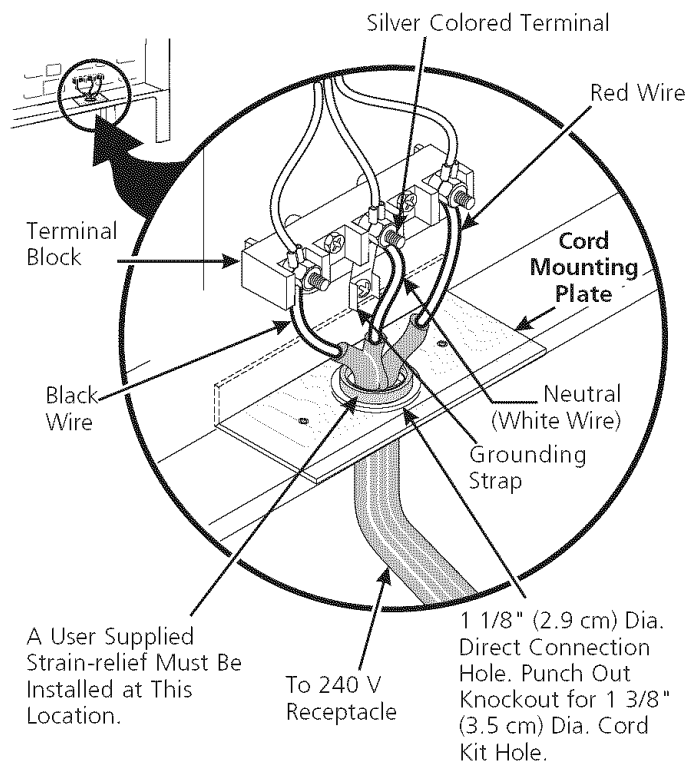

Figure 4
NOTE: Electric Slide-in Range is shipped from factory with 1 1/8" (2.9 cm) dia. hole as shown on figure 4. If a larger hole is required, punch out the knockout.
If local codes permit connection of the frame grounding conductor to the neutral wire of the copper power supply cord (see Figure 4):
2. Using the nuts supplied in the literature package, connect the neutral of the copper power supply cord to the center silver-colored terminal of the terminal block, and connect the other wires to the outer terminals. Match wires and terminals by color (red wires connected to the right terminal, black wires connected to the left terminal) (see figure 4).